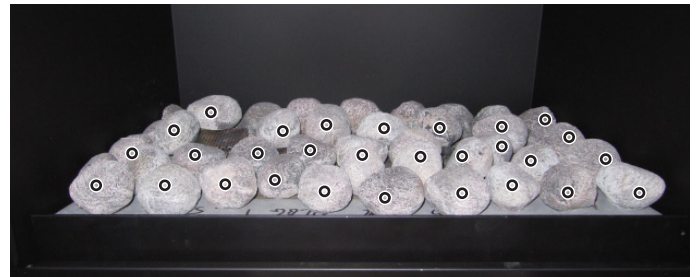

Figure 29c. Placement faux ceramic rocks. Note approximate location and placement.
3. Install Faux Rocks around outside edge and bottom for firebox pan as shown in **Figure 29c**